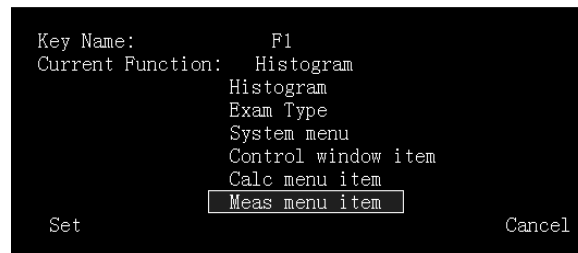
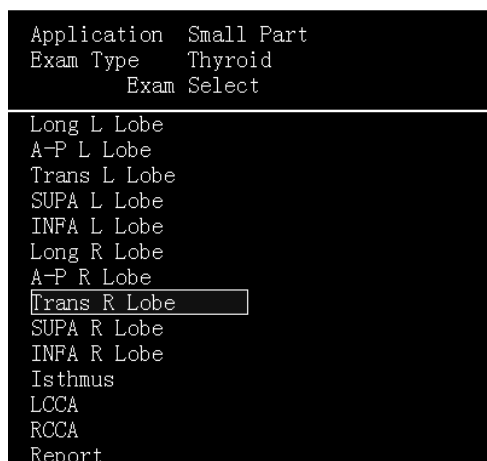
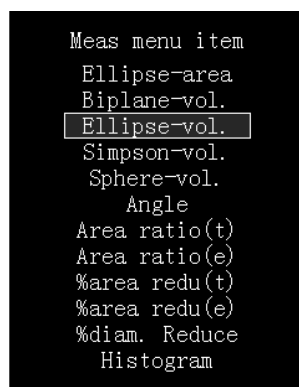

Fig. 5-1 Screen of Function Key Edit
Fig. 5-4 Function Key Edit Screen of Calculation Item
Fig. 5-5 Edit Screen of Measurement Menu
Six user-defined keys are available. To enter the screen of function key edit as shown in Fig. 5-1, select **Function Key Edit** on system setup menu and then press **Enter**.
- b) To enter exam type shown in Fig. 5-2, move the cursor over **Exam type** and press **Enter**. The user can move the cursor to a probe model or an applied type by the trackball, then select a probe model supported by the system, and select the application type corresponding to the selected probe by using the **Value** knob. The application type name changes to reflect a change in the probe model, and the exam type name changes to reflect a change in the application name. After selecting an application type, use the trackball to move the cursor to a certain exam type, press **Enter** to confirm this exam type and exit the screen of function key edit (Fig. 5-1). **Current Function** on the screen is **Exam Type = selected exam type**. Then select **Set**. Press **Enter** again to finish setup.
- c) User-defined keys can also be set up as specific options of system menu. The system menu setup can be divided into two types: the first type is to perform settings on certain screens, such as hospital name input, date and time settings, etc; the other type has a group of values for user selection, e.g. auto freeze setting. The option item name of the first type is treated as the function key, e.g. **Facility Name**, **Date Time**, etc; the option item and its value of another type are treated as the function key, e.g. **Auto Freeze = Off**. Move the cursor over **system menu** and press **Enter** to enter system menu screen. Select or set up the value of a specified option according to the operation steps of system menu, then press **Enter** to return to the screen of function key edit shown in Fig. 5-1. **Current Function** on the screen is **selected menu item** or **selected menu item = selected value**; Then select **Set**. Press **Enter** again to finish setup.
- 1) Set all item: Move the cursor over **Set all item** and press **Enter** to return to the screen of function key edit shown in Fig. 5-1. **Current Function** now is **Control window**. Then select **Set**. Press **Enter** again to set all the items on the screen as one function key.
key edit in Fig. 5-1. **Current Function** now is **Control item selected item=current value**. Then select **Set**. Press **Enter** to set one item on the screen as one function key.
- 3) Cancel: Move the cursor over **Cancel**, press **Enter** or press **Esc** directly to return to the screen of Function Key Edit (Fig. 5-1).
- e) Calc menu item can be set as a function key. For the calc menu item screen (Fig. 5-4), move the cursor over **Calc Item** and press **Enter**. Move the cursor over **Exam Select** and press **Enter** to enter exam type selection screen (Fig. 5-2). Having selected the exam type, press **Enter** key to return to the screen of Fig. 5-4. Then application type, exam type and content of the related calculation item change according to the user selection. Move the cursor over one calculation item, and press **Enter** to confirm that calculation menu item and return to the screen of function key edit (Fig. 5-1). **Current Function** now is **Calc =current selected Calc menu item**. Then select **Set**. Press **Enter** again to set the selected Calc menu item on the screen as a function key.
- f) Measurement menu item can be set as a function key. Move the cursor over **Meas** *Menu item* and press **Enter** key to enter measurement menu screen as shown in Fig. 5-5. Move the cursor over one measurement item, and press **Enter** key to confirm that measurement menu item and return to the screen of function key edit (Fig. 5-1). **Current Function** now is **Meas =current selected Meas menu item**. Then select **Set**. Press **Enter** again to set the selected measurement item on the screen as a function key.